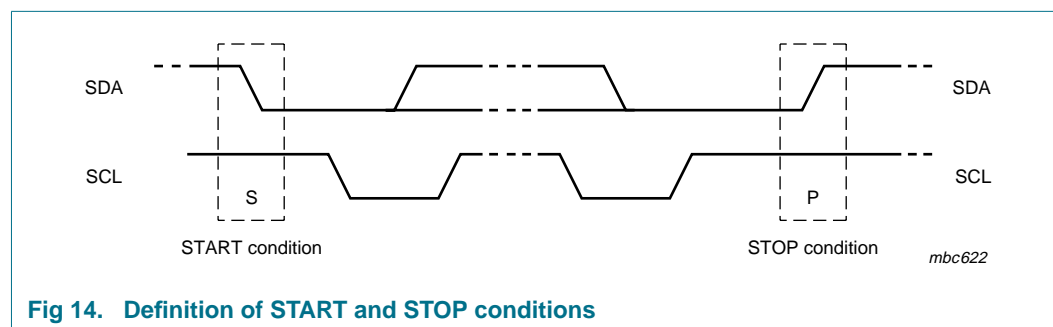

Fig 14. Definition of START and STOP conditions
Both data and clock lines remain HIGH when the bus is not busy. A HIGH-to-LOW transition of the data line, while the clock is HIGH is defined as the START condition (S). A LOW-to-HIGH transition of the data line while the clock is HIGH is defined as the STOP condition (P), see Figure 14.